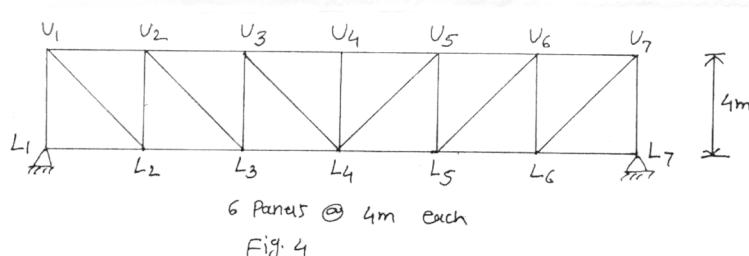

Fig. 4
- b)** Draw the influence line diagrams for forces in the member U_2U_3 , U_2L_2 and L_2L_3 of the truss as shown in fig.4. [8]